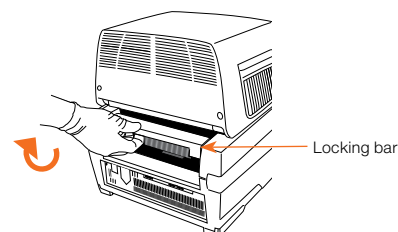
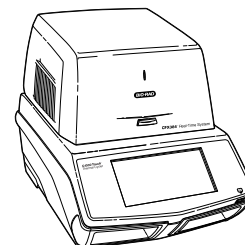

Fig. 2. Locking the CFX96 Module into place.
Fig. 3. The CFX96 Module positioned on the C1000 Touch Chassis.
4. Reach around the thermal cycler and pull up the locking bar (Figure 2) until it is flush with the sides of the module bay. This action moves the reaction module forward, locking it into place (Figure 3).